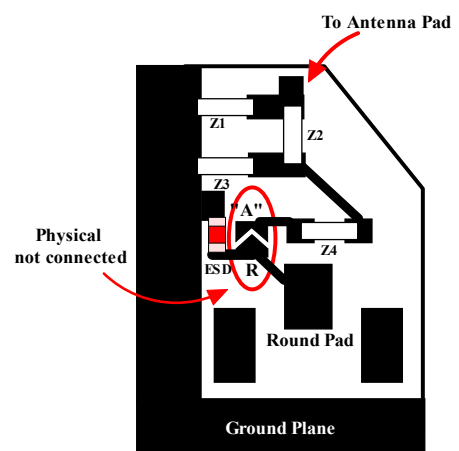

Figure 7b: PCB layout of the 2D matching circuit (Bottom View)
- Z1, Z2, Z3 and Z4 is a matching circuit component, the matching components of 2D is at the other side of the module (shown in the Figure 7b).